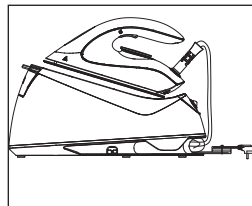

Abb. 4
- The steam hose can be placed at the winding place (15) (Fig. 4).